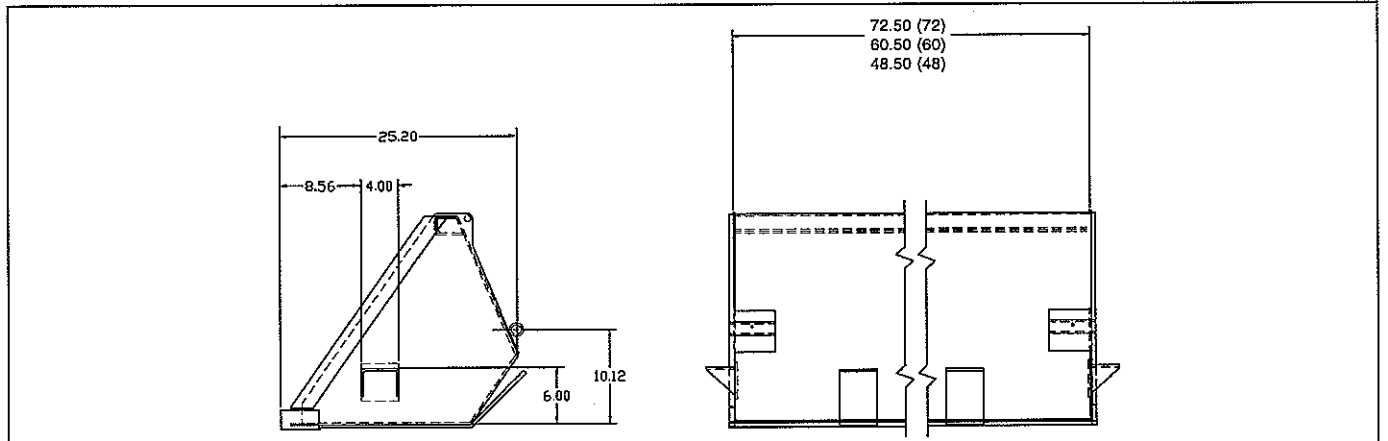

figure 6
2. Transfer punch holes from brackets to the bucket. Drill holes in the bucket using dimensions shown in figure 6.